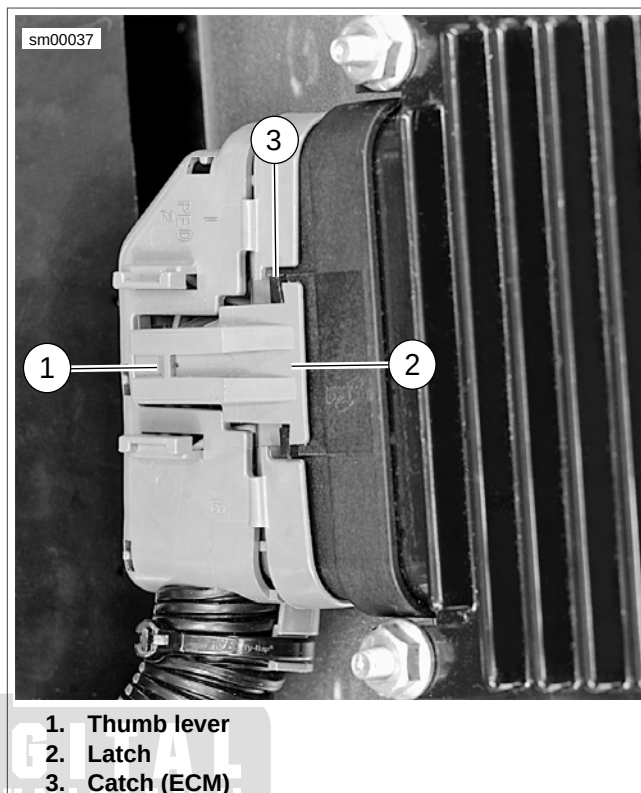

Figure A-3. Delphi 100W Micro-Pack Sealed Connector to ECM (typical)
See Figure A-3. While pressing the connector into the ECM, press the thumb lever (1) against the connector until the latch (2) pops out of the catch (3) on the ECM.